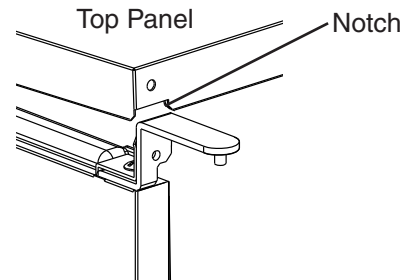

Fig. 14
- e) Rotate the top panel 180° from its previous position. This brings the notch that was previously in the right rear to the left front. See Fig. 14. Hook the rear part of the panel on the body, then secure the front with the 2 bolts removed in step 6a.